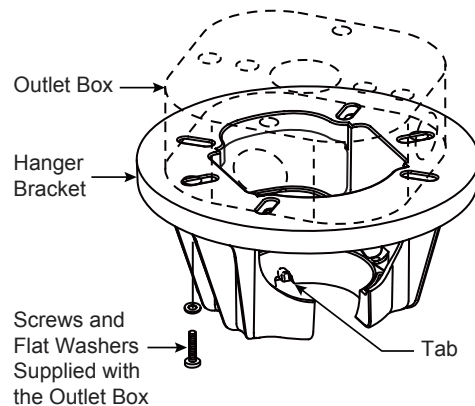
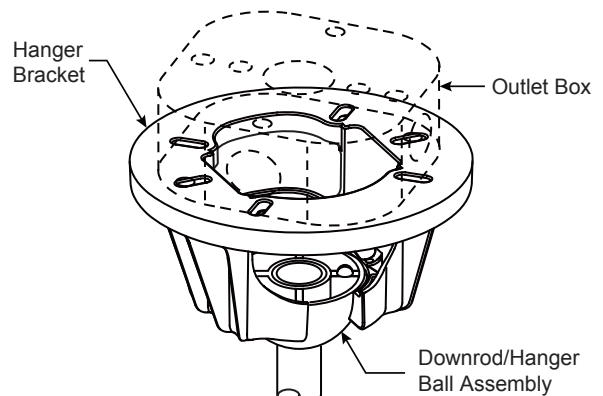

Figure 3
Figure 4
### Deep box with brace (Figure 3)
- 3. Loosen the two setscrews in the downrod support. Align the clevis pin holes in the downrod with the holes in the downrod support. Install the clevis pin and secure with the hairpin clip. (Figure 3) Be sure to push the straight leg of the hairpin clip through the hole near the end of the clevis pin until the curved portion of the hairpin clip snaps around the clevis pin. The hairpin clip must be properly installed to prevent the clevis pin from working loose. Pull on the downrod to make sure the clevis pin is properly installed.
- 4. Route wires through motor coupling cover and canopy on fan shown with open side facing up. (Figure 3)
1. Securely attach the hanger bracket to the outlet box using the outlet box screws and washers supplied with the outlet box. (Figure 3)
**NOTE:** Outlet box screws pass through slotted holes of the hanger bracket. (Figure 3)
3. Carefully lift the fan and seat the downrod/hanger ball assembly onto the hanger bracket that was just attached to the outlet box. (Figure 4) Be sure the groove in the ball is lined up with tab on the hanger bracket. (Figure 3)
- 7. Disassemble the switch cup housing/adapter assembly by removing three screws. (Figure 4)